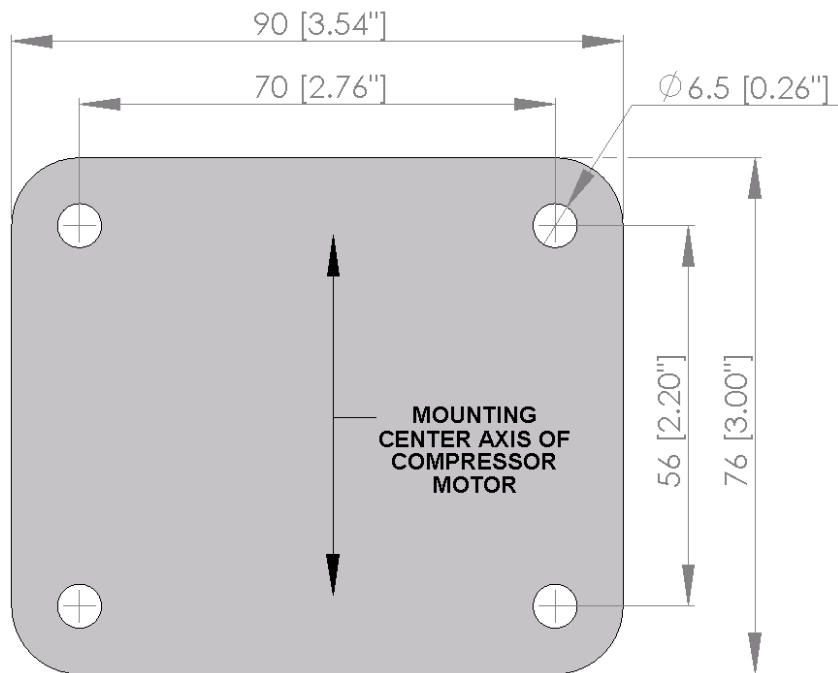

Figure 2.
- ☐ Using the compressor backing plate as a template, or referring to Fig.2. for exact sizes, drill four mounting holes at a diameter of 6.5mm [0.26"].